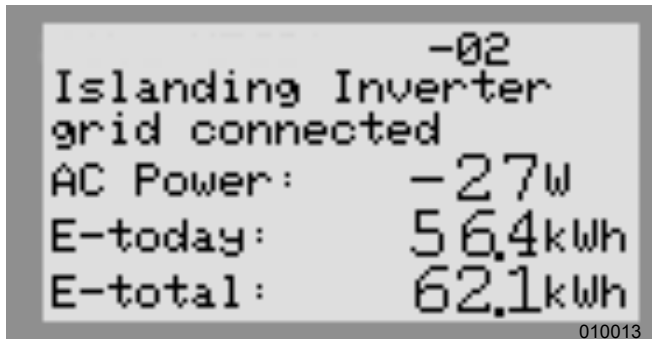

Figure 6-9. Inverter Enabled (4 of 4)
- See Figure 6-9. The inverter is enabled. It will create voltage at the DC terminals and begin communicating over REbus.